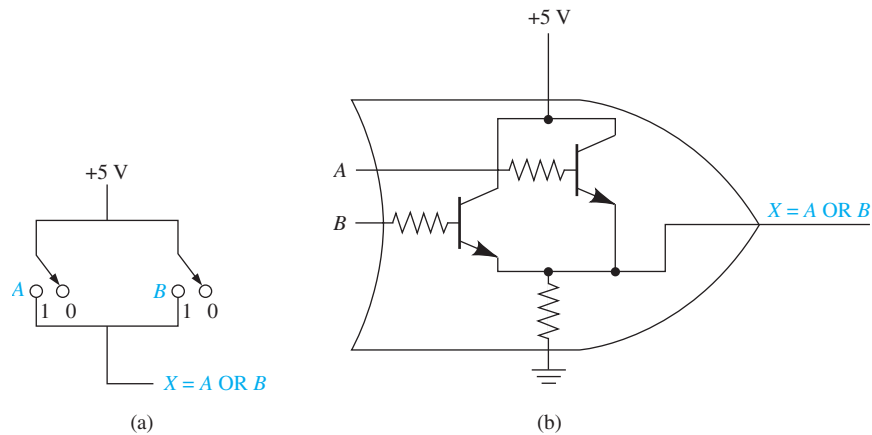

Figure 6 Electrical analogy for an OR gate: (a) using manual switches; (b) using transistor switches.
From the truth table you can see that X is 1 whenever A OR B is 1 or if *both* A and B are 1. Using manual or transistor switches in an electric circuit, as shown in Figure 6, we can observe the electrical analogy to an OR gate. From the figure, we see that the output at X will be 1 if A or B , or *both*, are HIGH (1).